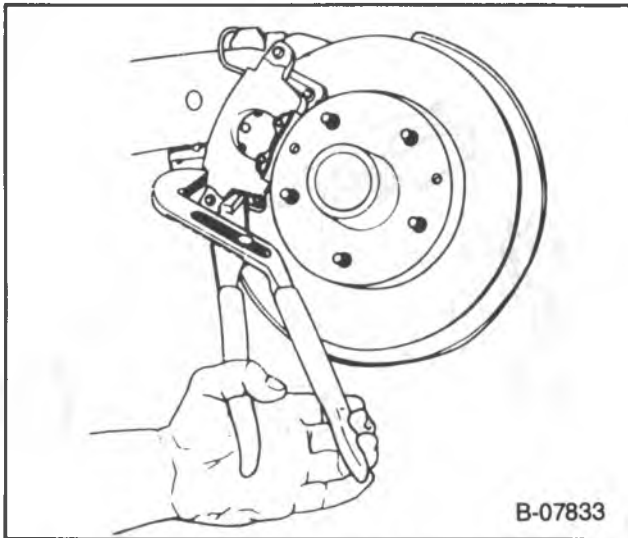

Figure 7 — Compressing the Brake Pad Ears
8. Compress the pad ears to the caliper (figure 7).